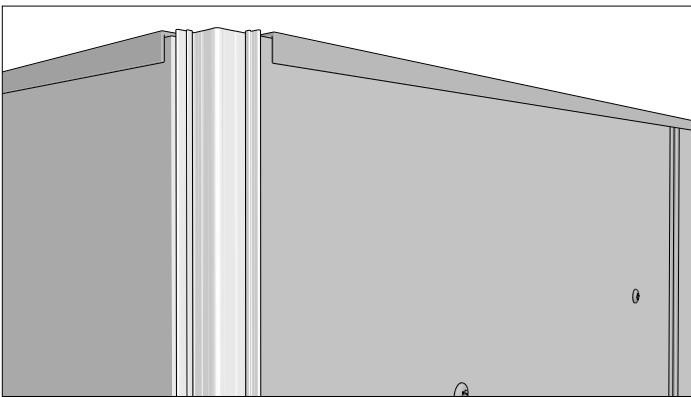

Figure 17.2
17. Install cladding on remaining sides of building following previous instructions (Figure 17.2). Corner top caps are the last trims installed.